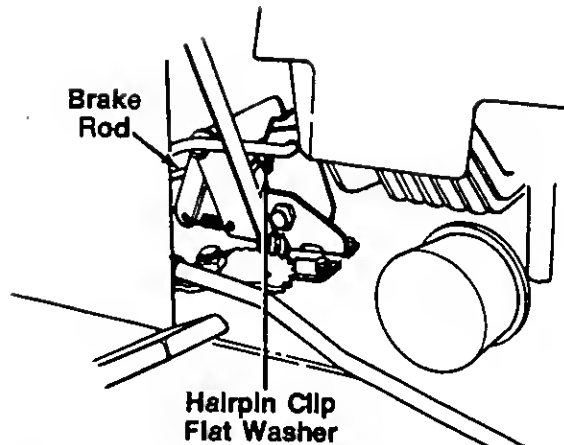

FIGURE 23.
11. Release the parking brake (be certain unit is blocked securely). Disconnect the brake rod from the clutch-brake pedal by removing the hairpin clip and flat washer. See figure 23.